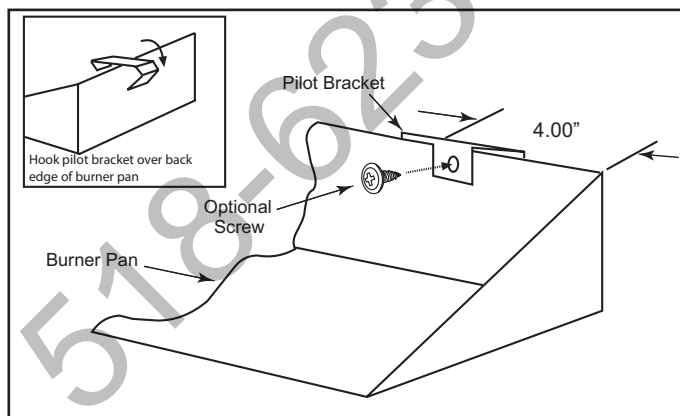
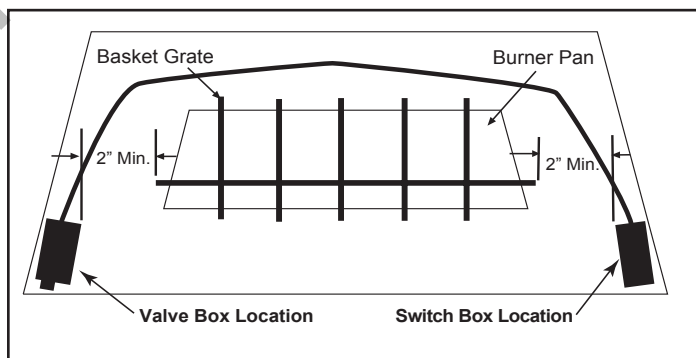

Fig. 4 Pilot Bracket Installation
Fig. 5 Minimum Clearances From Basket Grate
5. Locate a position on the back of the burner pan about 4-inches from the right or left side of the burner pan to mount the pilot assembly (See Fig. 4).
6. Mount pilot assembly to burner pan as shown in Fig. 4. **NOTE:** This pilot bracket clips on the burner pan and holds the pilot at a 45° position onto the pan, an attachment screw is recommended. Bend pilot tubing from pilot assembly until the bottom of the pilot bracket is resting against the pan. This will hold the pilot at the 45° position. (Use caution when bending pilot tubing not to kink the tubing and when locating the igniter and flame sensor wires not to locate the wires and the tubing in or over the burner pan.)
7. Locate the Valve Box on the left front corner and the Switch Box in the right front corner of the firebox as far forward as possible (See Fig. 5).
3. Locate a position on the back of the burner pan about 4" from the right or left side of the burner pan (See Figs. 4 & 5).
4. Mount pilot assembly to burner pan as shown in (Fig. 4). **NOTE:** This pilot bracket clips on the burner pan and holds the pilot at a 45° position onto the pan, an attachment screw is recommended. Bend pilot tubing from pilot assembly until the bottom of the pilot bracket is resting against the pan. This will hold the pilot at the 45° position. (Use caution when bending pilot tubing not to kink the tubing and when locating the igniter and flame sensor wires not to locate the wires and the tubing in or over the burner pan.) Locate the Valve Box on the left front corner and the Switch Box in the right front corner of the firebox as far forward as possible (See Fig. 5).
The new Valve Box **must be placed** a minimum of 2-inches from the basket grate legs and mounted on the left side of the log set. In addition the Switch Box **must be placed** a minimum of 2-inches from the basket grate legs and mounted on the right side of the log set (See Fig. 5). **NOTE:** If a minimum 4-inch clearance can be maintained from the basket grate legs then Valve Box or Switch Box can be placed on either side of the log set. **ALL WIRES MUST BE A MINIMUM OF 2-INCHES AWAY FROM BURNER PAN AT ALL TIMES.**